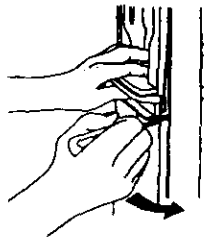

Fig. 5E
3. Pry outward on both sides of the tool holder to release tabs and pivot holder out of position (Fig. 5E).